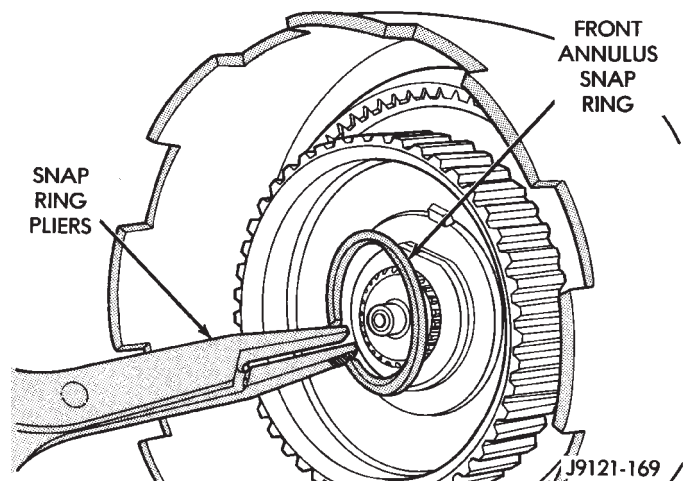

Fig. 241 Installing Front Annulus Snap Ring
(20) Install front annulus snap ring (Fig. 241). Use snap ring pliers to avoid distorting ring during installation. Also be sure ring is fully seated.